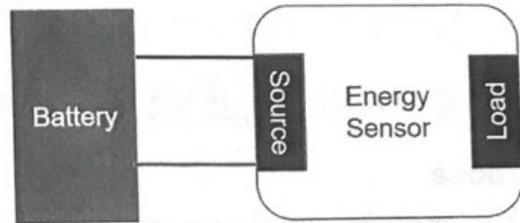

Figure 1. Battery and Energy Sensor
7. Review Figure 1 displaying the battery and energy sensor connections. Attach a red wire to the positive side of the battery case.